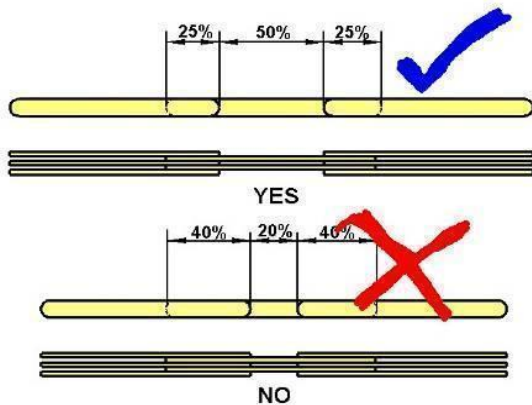

Figure 2 - “50% Rule” Restrictions
- Bridge roadway must be continuous, flat, and level. The roadway shall maintain gaps to avoid violating the 50% rule. Refer to Figure 2 above.